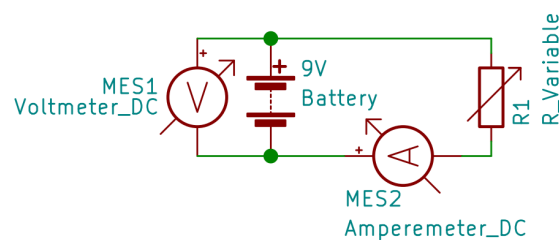

Figure 4: Circuit diagram
- Set up the circuit as shown in Figure 4